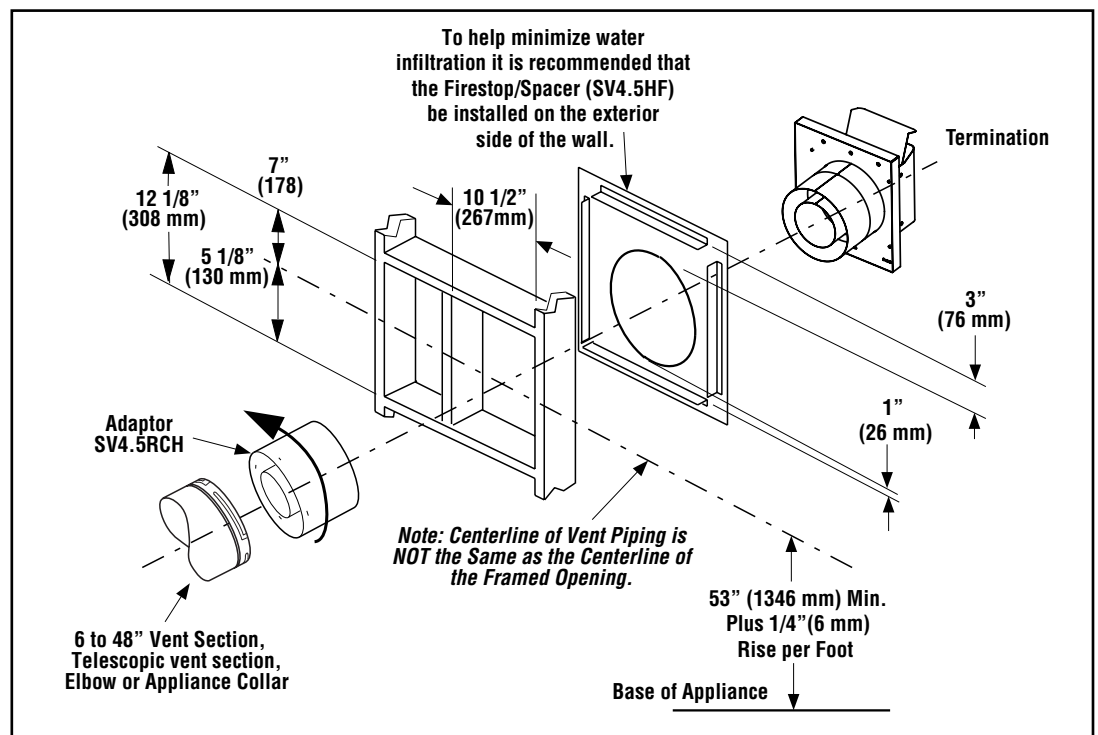

Figure 9 - Installing the Horizontal Termination
2. **Assemble the vent run to the exterior wall**—If not previously measured, locate the center of the vent at the exterior wall. Prepare the opening. Assemble the vent system until the terminus of the last section is within 7" (178 mm) to 11-1/4" (286 mm) inboard of the exterior surface to which the SV4.5 HT termination is to be attached (**Figure 9**). If the terminus of the last section is not within this distance, use the telescopic vent section SV4.5LA, as the last vent section. **Table 1, Page 16** lists the additional venting components needed (in addition to the termination and adaptor) for a range of wall thicknesses.
3. **Attach the termination adaptor**—Attach the adaptor (SV4.5RCH, provided with the termination) to the vent section or telescoping vent section, elbow or fireplace collar (**Figure 9**).
4. **Install the firestop/spacer at the exterior wall**—When using the square termination, install SV4.5HF Firestop/Spacer over the opening at the exterior side of the framing, long side up, with the 3" spacer clearance at the top (**Figure 9**) and nail into place.